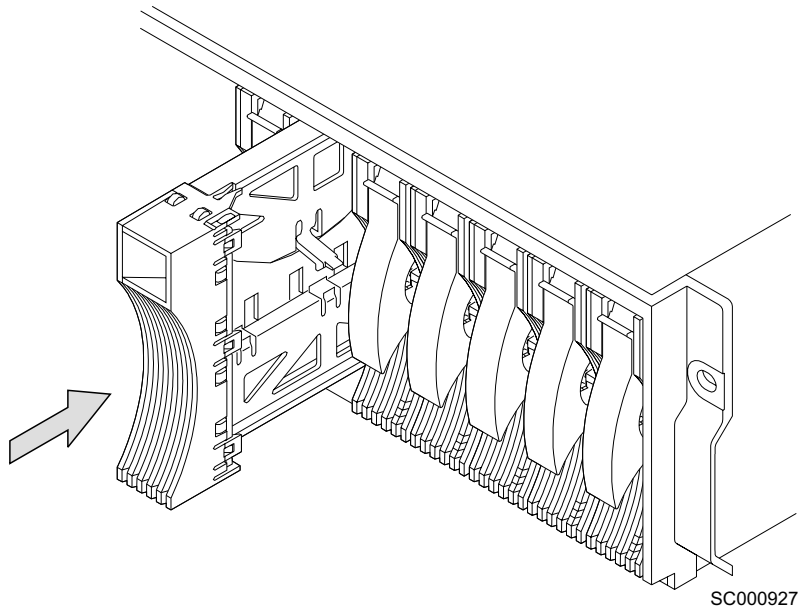

Figure 30. Reinstalling a dummy disk drive module
7. Ensure that the 2104 Model DS4 has no empty slots. Install dummy disk drive modules if necessary. See Figure 30.